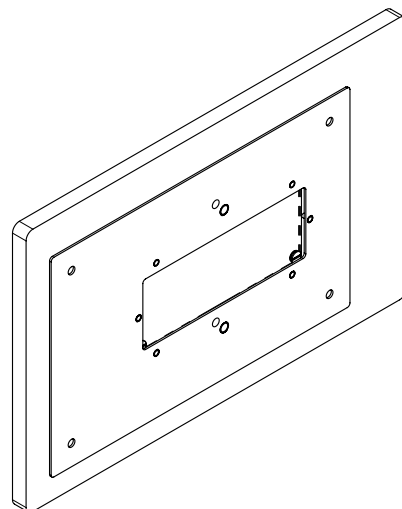

FIGURE 3
6. Attach the Flush Cover plate to the Flush Cover strap with the Securing nuts. (See Figure 3)